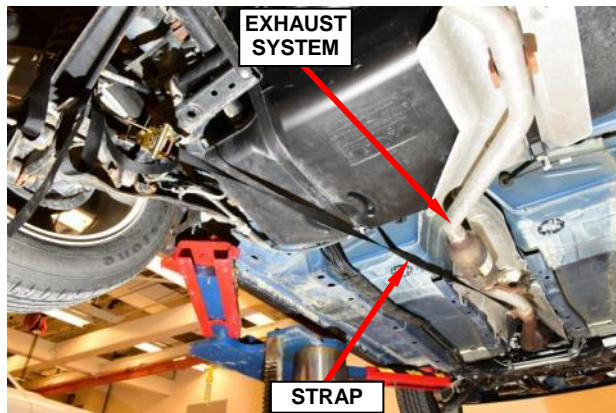

Figure 32 – Secure Exhaust Rearward
98. Pull the exhaust system rearward with a suitable strap (Figure 32).